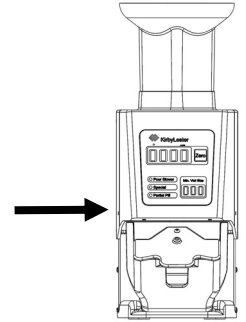

Fig. 13 – Lift from bottom or sides
- Lift the KL1 carefully from the bottom or sides (Fig.13).